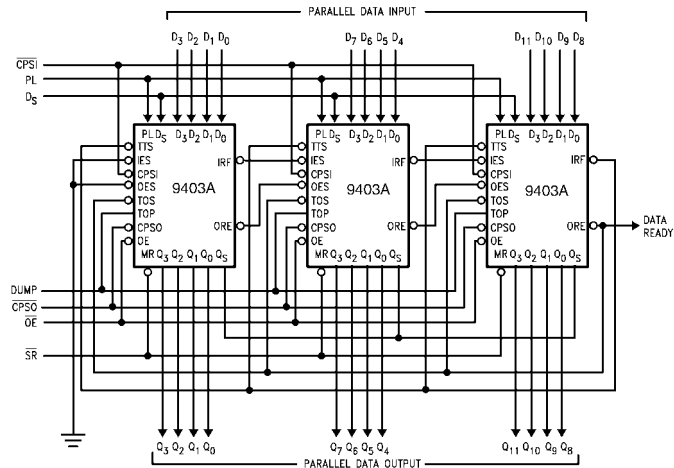

FIGURE 5. A Horizontal Expansion Scheme
**Horizontal Expansion**—The 9403A can also be horizontally expanded to store long words (in multiples of four bits) without external logic. The interconnections necessary to form a 16-word by 12-bit FIFO are shown in Figure 5. Using the same technique, any FIFO of 16 words by  $4n$  bits can be constructed, where  $n$  is the number of devices. The IRF output of the right most device (most significant device) is connected to the TTS inputs of all devices. Similarly, the ORE output of the most significant device is connected to the TOS inputs of all devices. As in the vertical expansion scheme, horizontal expansion does not sacrifice any of the 9403A's flexibility for serial/parallel input and output.